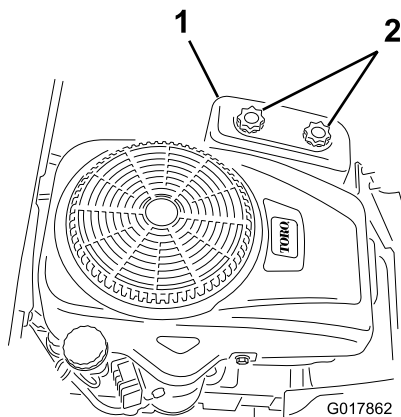

Figure 28
4. Remove the air-cleaner cover by unscrewing the 2 knobs (Figure 28).
3. Install the air-cleaner cover, and tighten the 2 knobs (Figure 28).